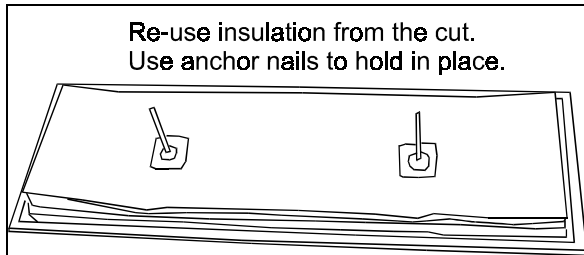

FIGURE 2
3. Install insulation on the new cover then install cover (refer to figure 2).